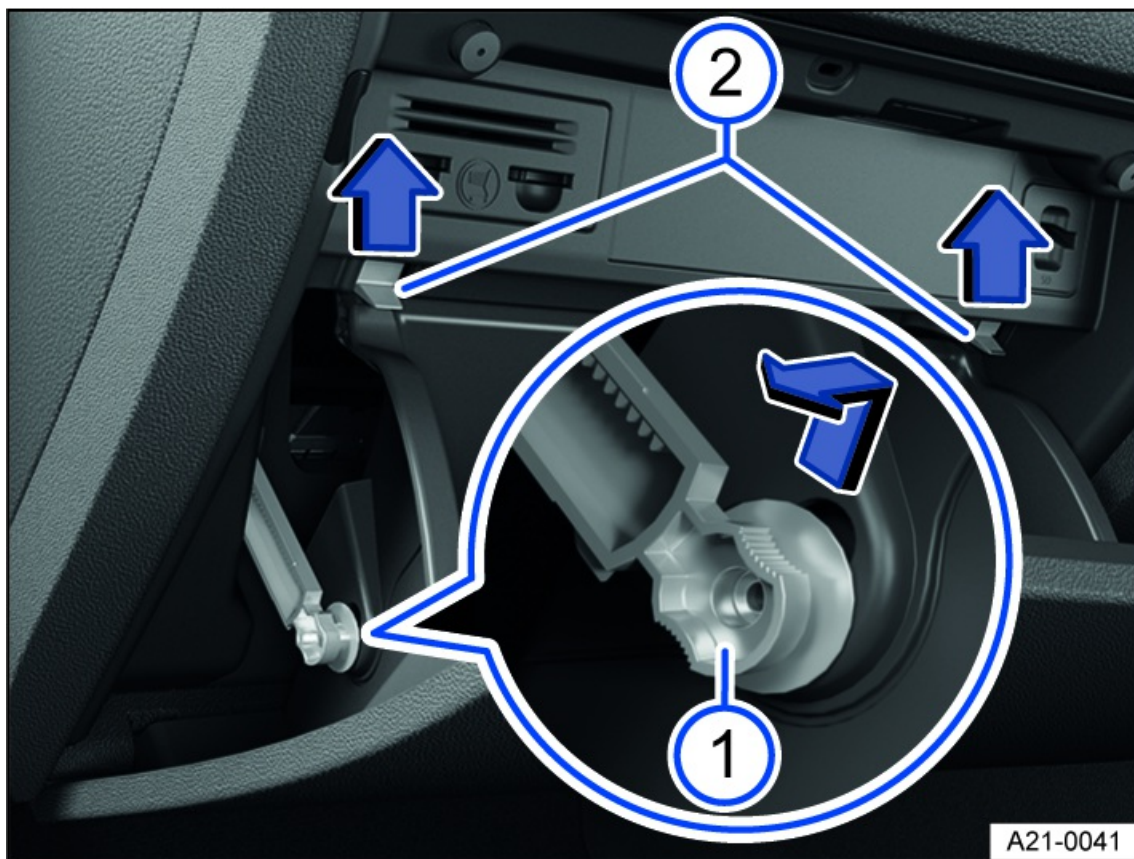

Fig. 146 On the passenger's side: Fuse box cover in the instrument panel (right-hand drive vehicles).
2. Push the brake element upward into the opening of the bracket and pull it out sideways in the direction of the arrow *fig. 146*.
3. Press the stop pin upwards in the direction of the arrow, while at the same time opening the glove compartment further *fig. 146*.
2. Insert the brake element into the opening of the bracket and push it in the opposite direction to the arrow until it engages *fig. 146*.
3. Carefully push the glove compartment forward over the resistance of the stop pins *fig. 146*.